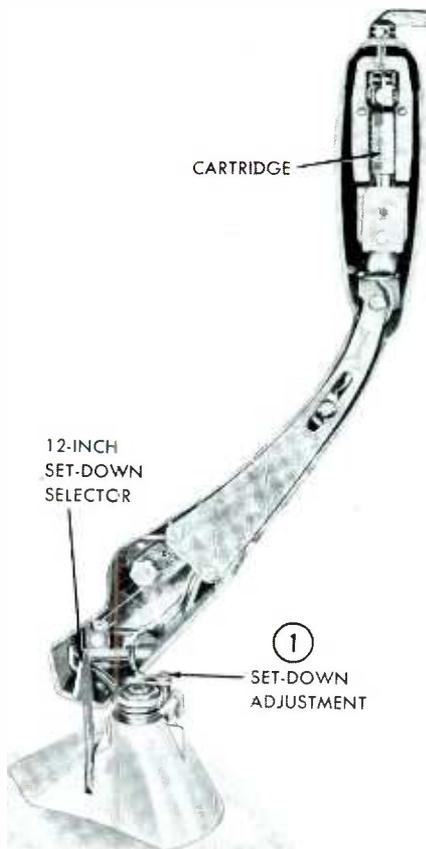

Fig. 5. Tone Arm of the V-M 950 Series.
The set-down position of the needle is adjusted by means of the set-down adjustment screw (1), as shown in Fig. 5. This screw is mounted on